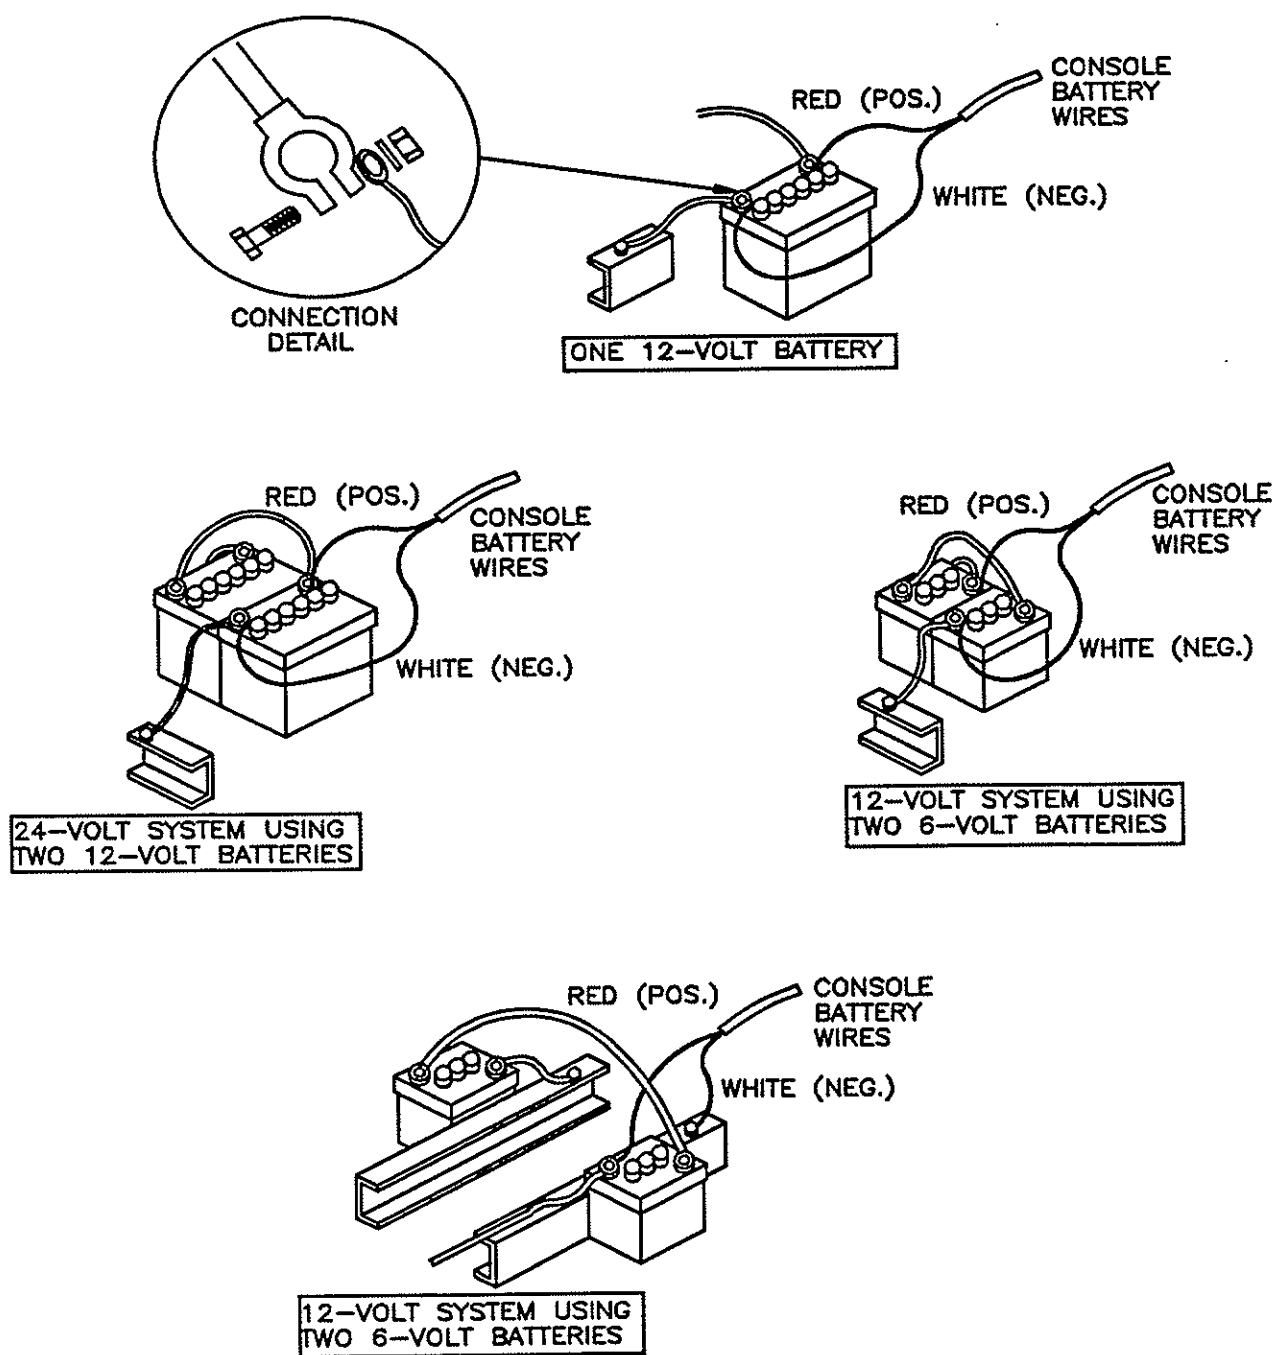

FIGURE 5A
- 3) Turn RUN/HOLD/OFF switch OFF and route the Red and White battery wires to a 12-volt battery. Attach the White battery wires to the NEGATIVE (-) terminal and the Red battery wire directly to the POSITIVE (+) battery terminal. (See Figure 5a). (DO NOT CONNECT RED AND WHITE WIRES TO THE STARTER). Secure the battery wires with plastic cable ties. DO NOT tie the battery wires close to the existing battery leads or any other electrical wiring.